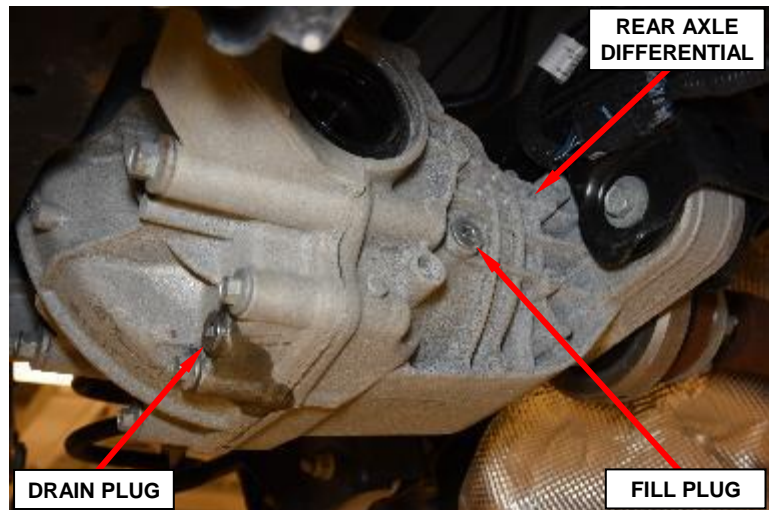

Figure 16 – Drain Plugs
8. Remove the axle fluid drain plug and drain the rear axle fluid into a suitable waste oil container (Figure 16).
9. Install the axle fluid drain plug and tighten to prevent leakage (Figure 16).
26. Remove the axle fluid fill plug and fill rear axle differential to the bottom of the fill hole (Figure 16).
27. Install axle fluid fill plug and tighten to 35 N·m (26 ft lbs) (Figure 16).